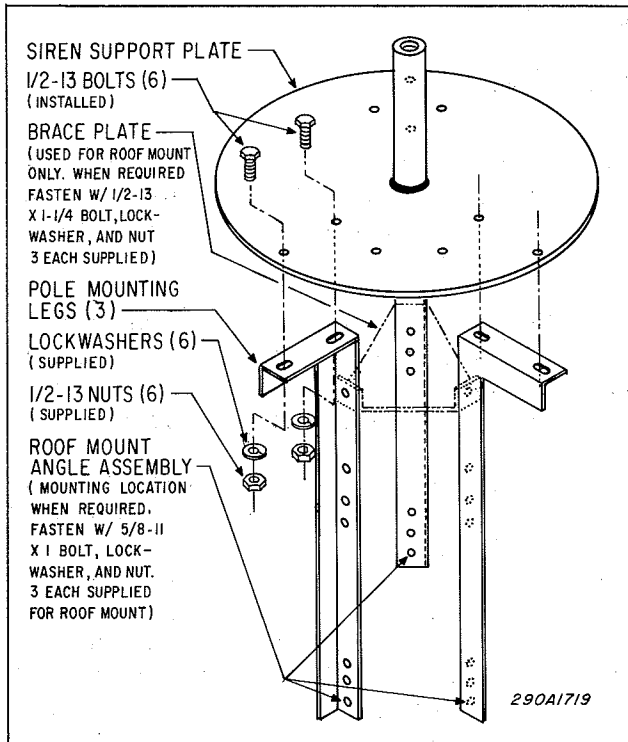
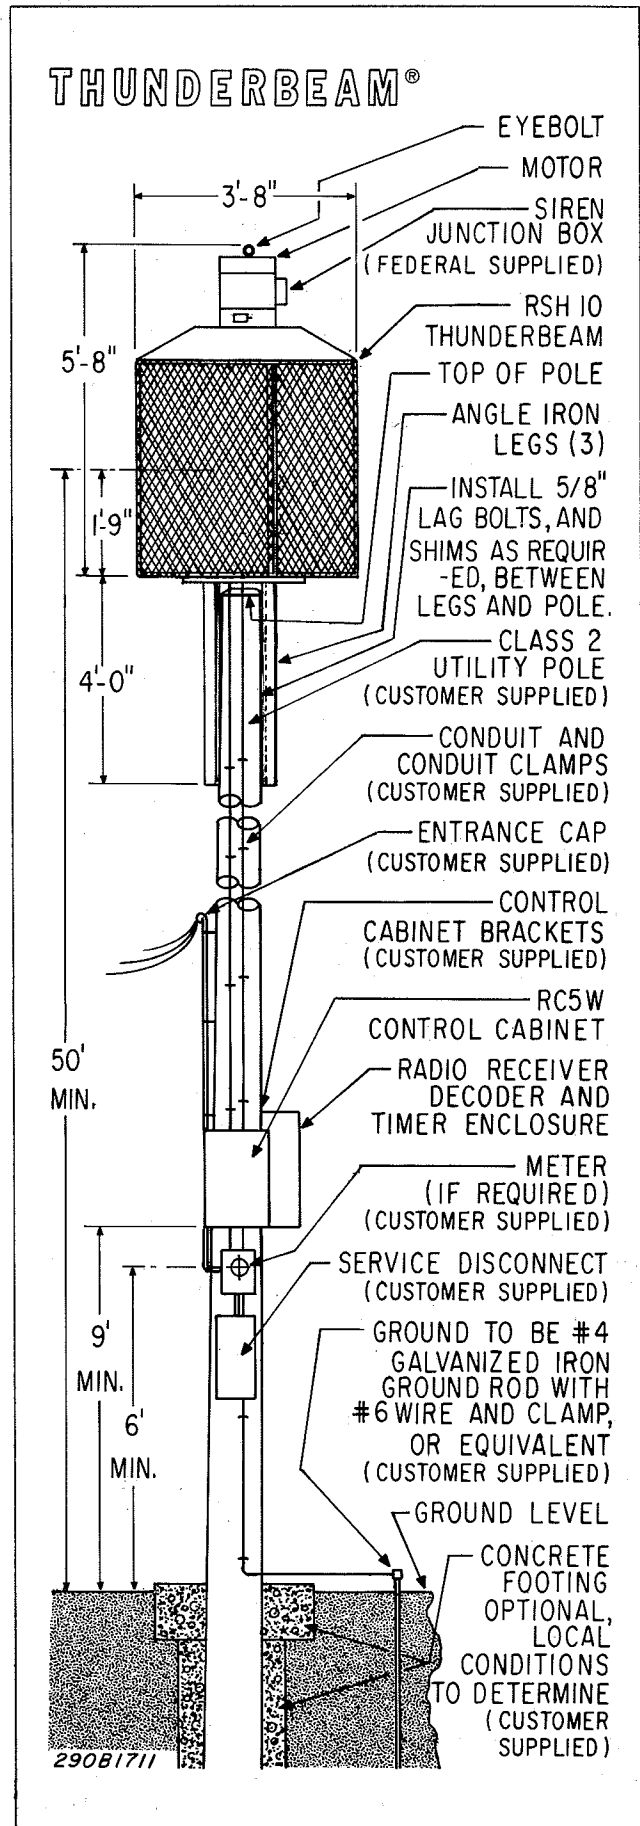

Figure 3-1 Siren Assembly
Figure 3-2 Typical Pole-mounted Siren Installation
Before installing the siren in a pole-type or roof-type configuration, it is necessary to assemble the legs to the siren. See figure 3-1. Mount the legs to the siren support plate as shown, using 1/2-13 bolts, lockwashers and nuts.
For roof-type installations only, then attach the braceplate to the legs, using 1/2-13 bolts, lockwashers and nuts. Then attach the roof angle assembly, using 5/8-11 bolts, lockwashers and nuts. (see figure 3-1).
A typical siren pole-mounted installation is shown in figure 3-2. The siren is mounted on a Class 2 utility pole 50 ft. above the ground. The siren is attached to the pole by means of a stand from Federal, as shown in figure 3-1.
The siren is mounted on a Class 2 utility pole by means of three angle iron legs, approximately 3 feet long. To attach the siren to the pole, proceed as follows (see figure 3-2).
(e) Adjust the three legs, tighten and insert shims, if necessary, between the siren legs and pole. Bolt the siren to the pole using two 5/8" lag bolts, at least four inches long for each leg, as shown in figure 3-2. Tighten all bolts.
3. Install conduit between the electric power and the disconnect switch. If the siren is installed on a utility pole, add an entrance cap to the end of the conduit, as shown in figure 3-2.